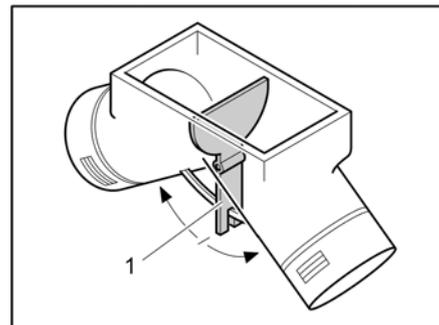

Fig. 115 Circulation fan, adjustment flap in central position
In the central position the warm air is distributed evenly to each warm air outlet. The operating lever (Fig. 115,1) for the adjustment flap is located under the base flap in the wardrobe.
- Push the operating lever (Fig. 115,1) in the direction of the arrow until the required position has been reached.